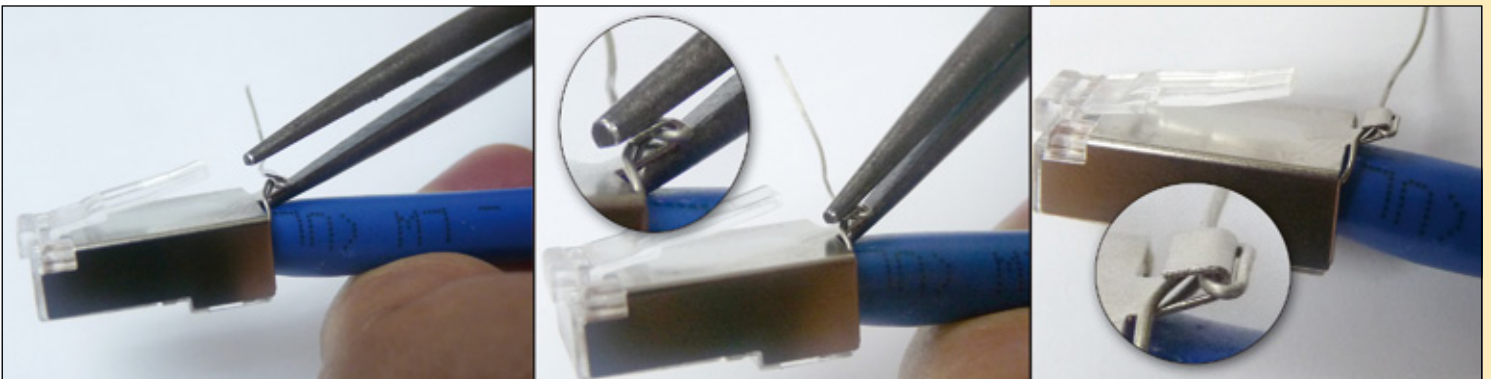

Figure 23
- 18 Proceed to crimp the grounding tab and drain wire with the help of a pair of pliers, as shown in the images of Figure 23.